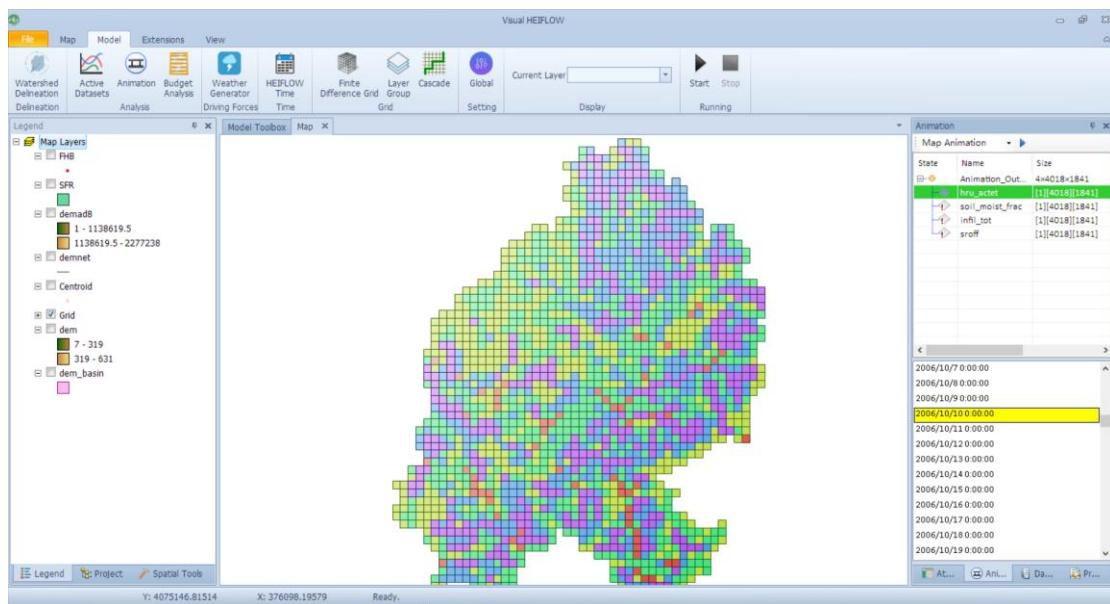

Figure 8-16. Spatial distribution of actual ET on 2006-10-10.
- 5) Left click on any item in the date and time list, spatial distribution of actual ET on the clicked date is displayed in the map (Figure 8-16).